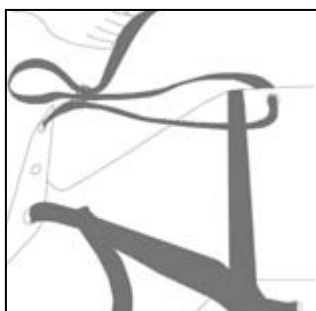

Fig. 9
- Insert one end of head strap through lift slot at head end of stretcher (fig. 9).